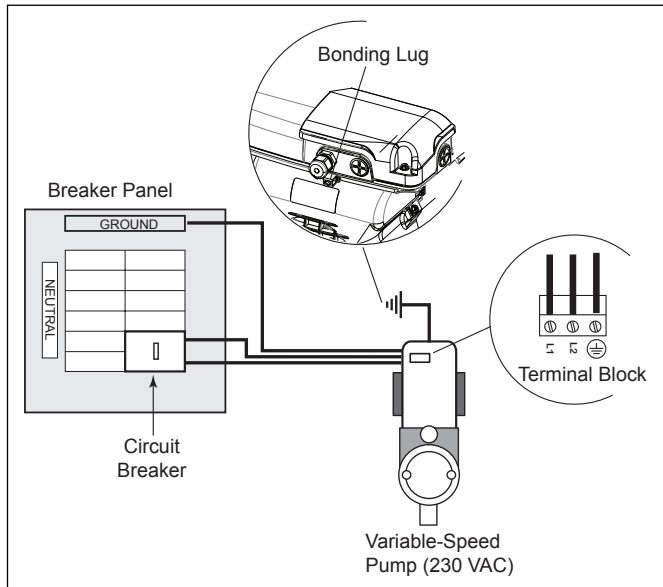

Figure 3. Bonding the Motor
2. The bonding must be accomplished by using a solid copper conducto, No. 8 AWG or larger. In Canada No. 6 AWG or larger must be used. Bond the motor using the external bonding lug provided on the motor (See figure 3).